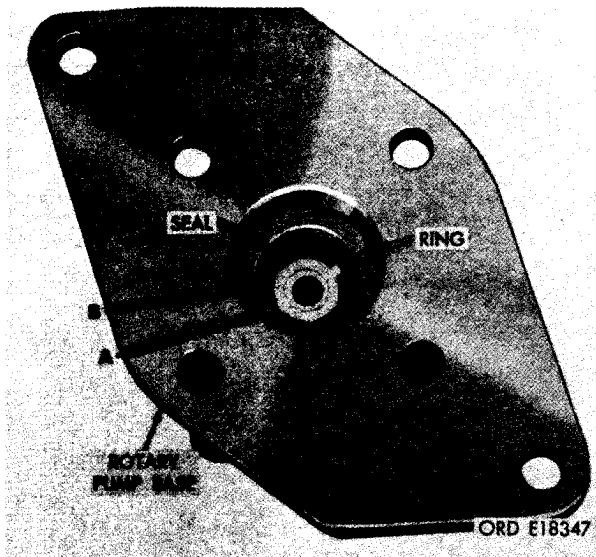

FIGURE 420. REMOVING OR INSTALLING SMALL PLAIN SEAL.
- (6) Figure 420. (A) Pry out retaining ring from rotary pump base and discard retaining ring. (B) Pry out small plain seal and discard seal.